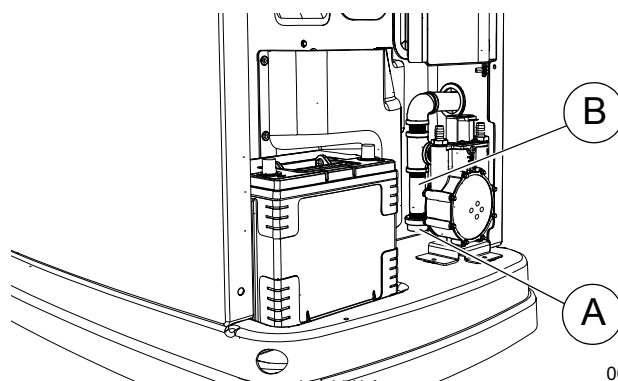

Figure 4-11. Cleaning the Sediment Trap
3. See Figure 4-11. Unscrew and remove the cap (A).